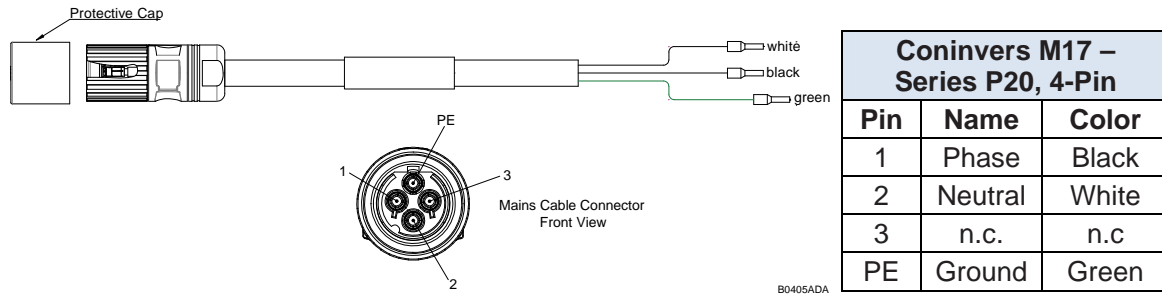

figure 4-10 Mains power cable - AC
4. Wire the power cable to the junction box or receptacle. Refer to the color code and pin numbers shown in *figure 4-10 (AC cable)*, and *table 4-3*.